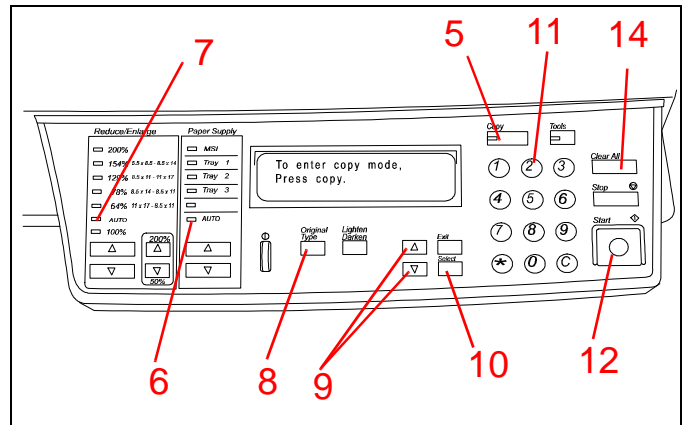

Figure 45
5. See Figure 45. Press the **Copy** button.